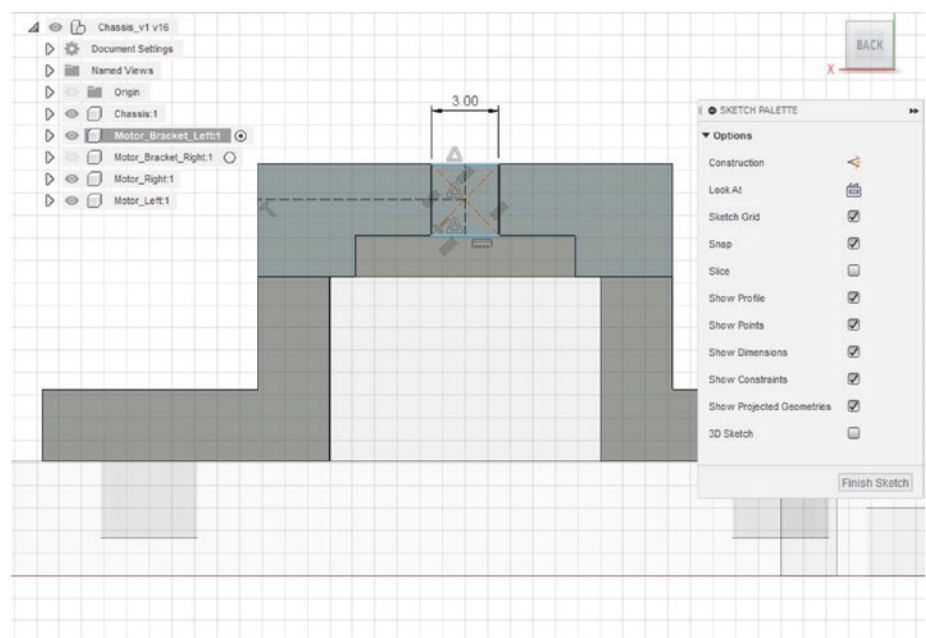

Figure 6-71. Make a small rectangle that will allow you to tighten the set screw of the wheels
45. Sketch a small rectangle. See Figure 6-71.